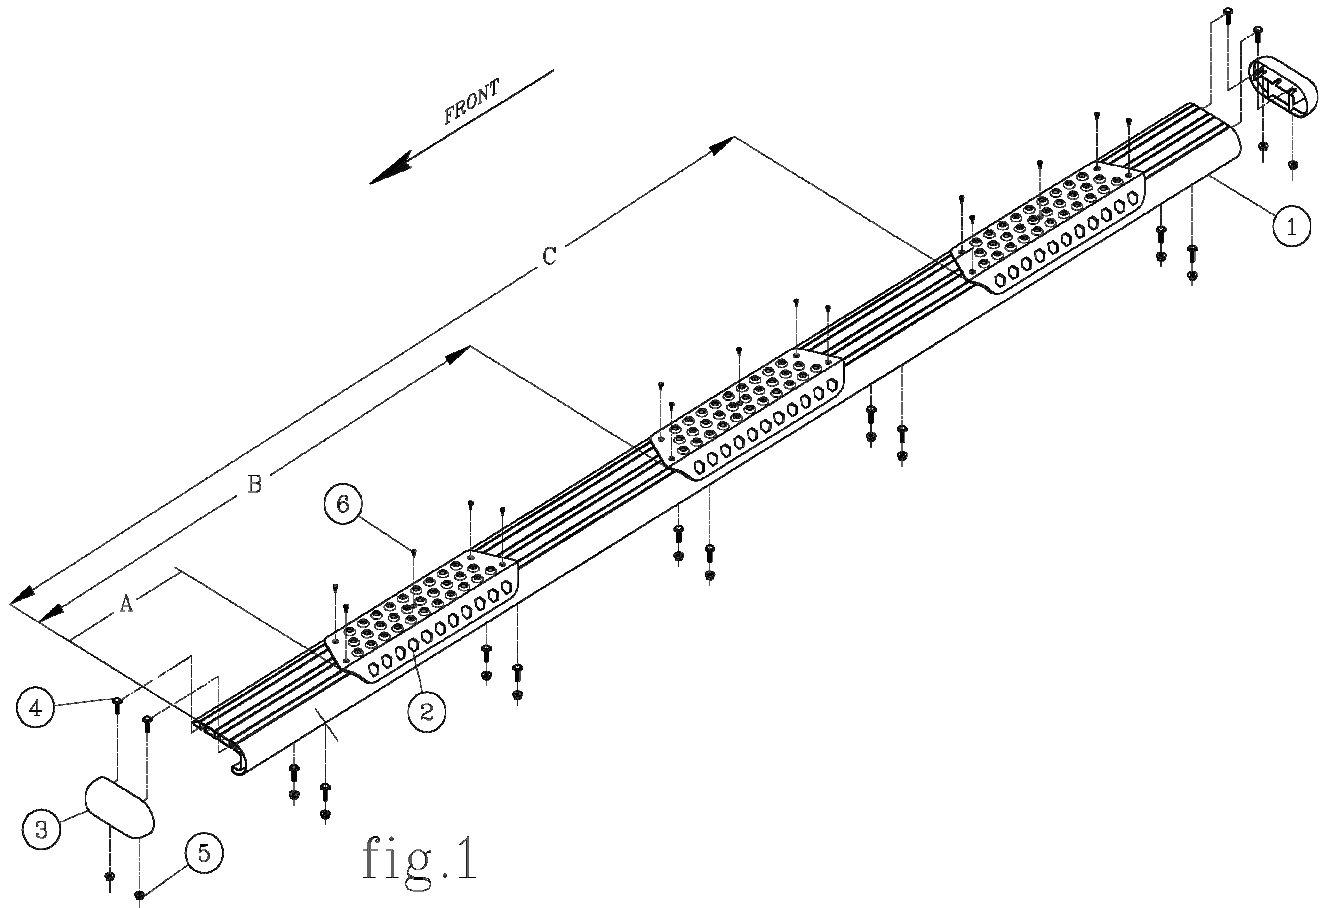

fig.1
3. BEFORE ATTACHING THE O-MEGA STEPS TO THE BRACKETS, PLACE THE STEP PADS (ITEM #2) ON TOP OF THE STEP PLATES. USE THE TABLE ON SHEET #2, AS A GUIDE TO POSITION THE STEP PAD FOR YOUR PARTICULAR VEHICLE. WHEN INSTALLING THE PADS ON THE STEPS, DRILL (5) 1/8" HOLE USING THE STEP PAD AS A GUIDE. ATTACH WITH (5) 8-18X1/2" TEK SCREWS (ITEM #6) PROVIDED. REPEAT FOR ALL STEP PADS. (**NOTE: DUE TO THE SHORTNESS OF SOME BOXES, MOUNT THE BOX STEP PAD FIRST, APPROXIMATELY 1/2" FROM THE END CAP AND THEN MOUNT THE MIDDLE STEP PAD ACCORDINGLY.**)
5. INSTALL THE END CAPS (ITEM #3) AS SHOWN IN *fig. 1*, TIGHTENING THE NUTS TO 5 LB FT.